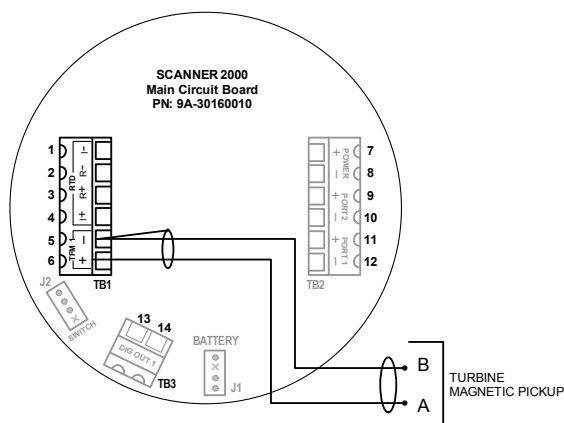

Figure 3.10 - Flowmeter input wiring
- c. Connect the flowmeter input wiring to terminal block, if appropriate. See Figure 3.10, pg. 65.
TFM1 on the main circuit board provides the turbine flowmeter input signal generated by a magnetic pickup, enabling the NUFLO Scanner 2105 flow computer to calculate and display instantaneous flow rates and accumulated totals. Wire as shown in Figure 3.10.